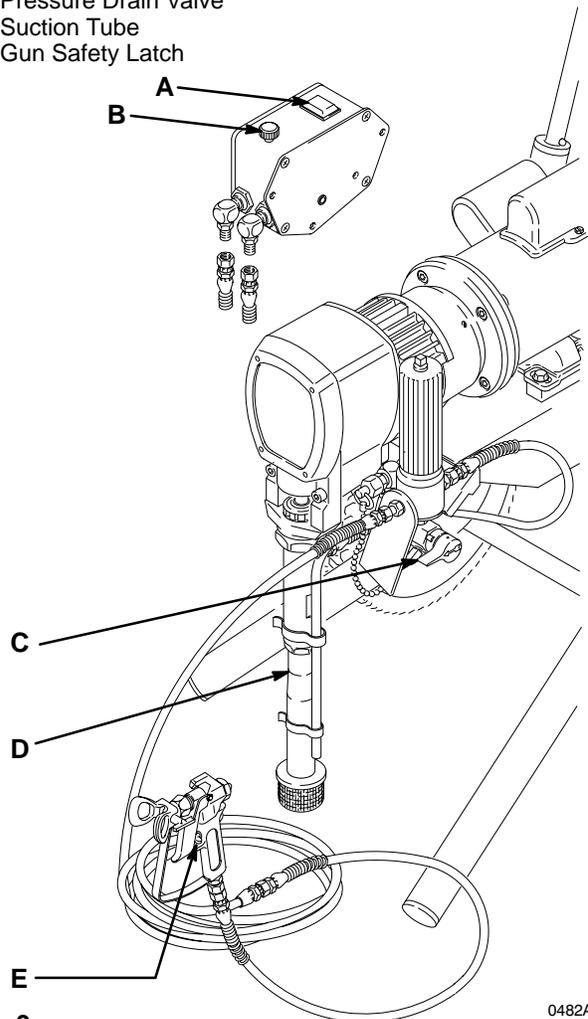
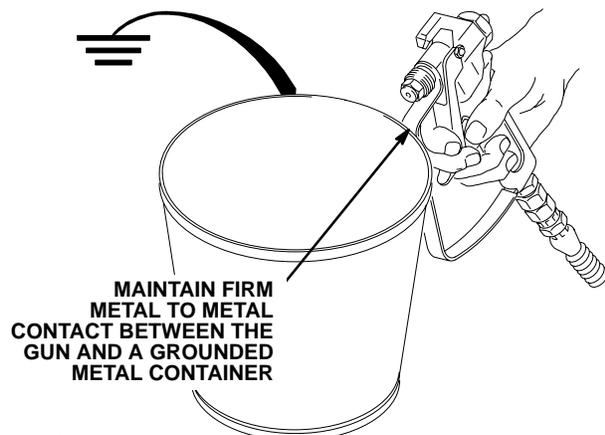
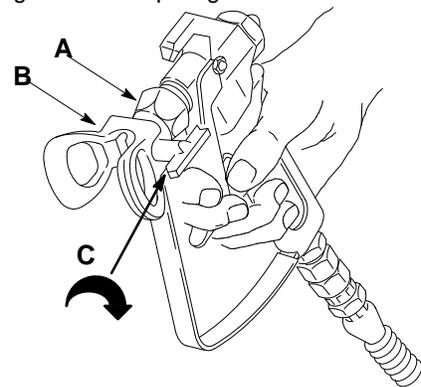
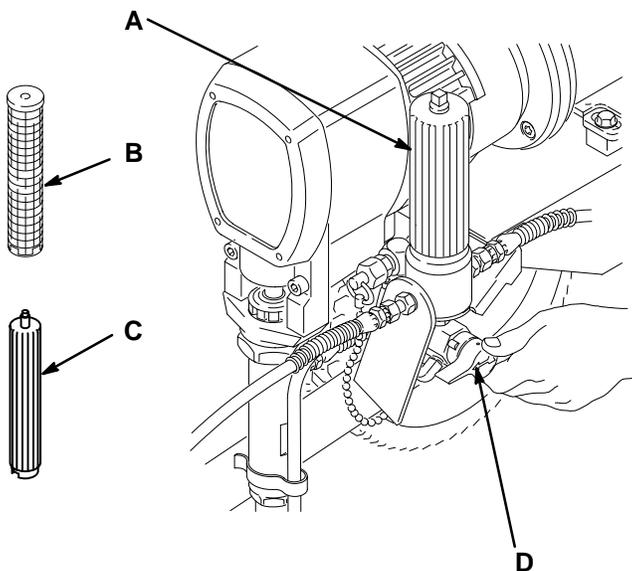

Fig. 3
Fig. 4
Fig. 5
Fig. 8
- a. Close the pressure drain valve (C). See Fig. 3.
- c. Put the suction tube (D) into the paint container.
- d. Turn the pressure adjusting knob (B) all the way counterclockwise to lower the pressure setting.
- e. Disengage the gun safety latch (E).
- f. Hold a metal part of the gun firmly against, and aimed into, a grounded metal waste container. See Fig. 4. Squeeze the trigger and hold it open. Turn the ON/OFF switch (A) to ON. See Fig 8–1. Slowly increase the pressure setting until the sprayer starts. Keep the gun triggered until all air is forced out of the system and the paint flows freely from the gun. Release the trigger and engage the gun safety latch.
**NOTE:** If the pump is hard to prime, open the pressure drain valve (C). When fluid comes from the valve, close it. Disengage the gun safety and proceed as in Step 1f, above.
- Turn the pressure adjusting knob (B) just until spray from the gun is completely atomized. See Fig. 3. To avoid excessive over-spray and fogging, and to decrease tip wear and extend the life of the sprayer, always use the lowest possible pressure needed to get the desired results.
- Test the spray pattern. To adjust the direction of the spray pattern, engage the gun safety latch (E). See Fig. 3. Loosen the tip guard retaining nut (A). Position the tip guard (B) horizontally for a horizontal pattern or vertically for a vertical pattern. Tighten the retaining nut. See Fig. 5.
- If using the RAC IV Spray Tip Kit**, rotate the RAC IV handle 180°. See Fig. 5. Disengage the gun safety latch. Trigger the gun into a grounded waste container. Engage the gun safety latch again. Return the handle to the spraying position.
2. Remove the filter bowl (A), screen (B) and support (C). Clean the screen and support separately. Install the bowl, without the screen and support, to flush it. See Fig. 8. See instruction manual 307–273, supplied, for detailed instructions.